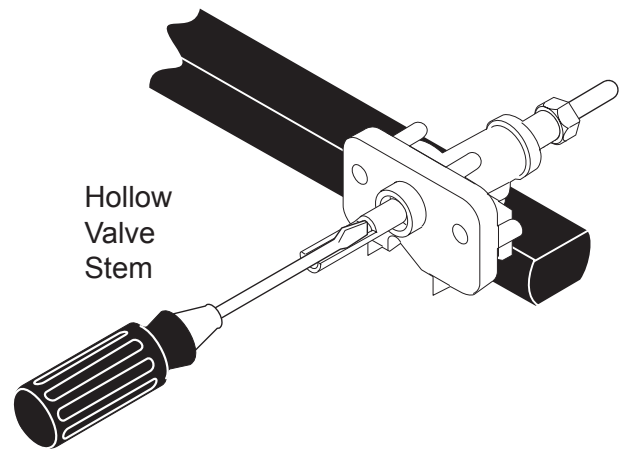

Figure 16
- Insert a thin-bladed screwdriver into the hollow valve stem and engage the slotted screw inside. Flame size can be increased or decreased with the turn of screw. Turn counterclockwise to increase flame size. Turn clockwise to decrease flame size (Figure 16). Adjust flame until you can quickly turn knob from LITE to lowest position without extinguishing the flame. Flame should be as small as possible without extinguishing.